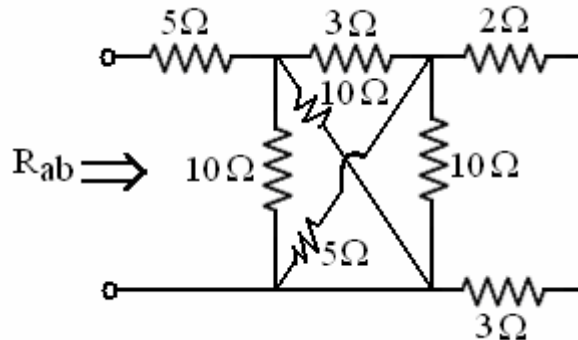

Figure 1
- 1.a) Calculate the equivalent resistance in the below circuit (shown in Figure 1).